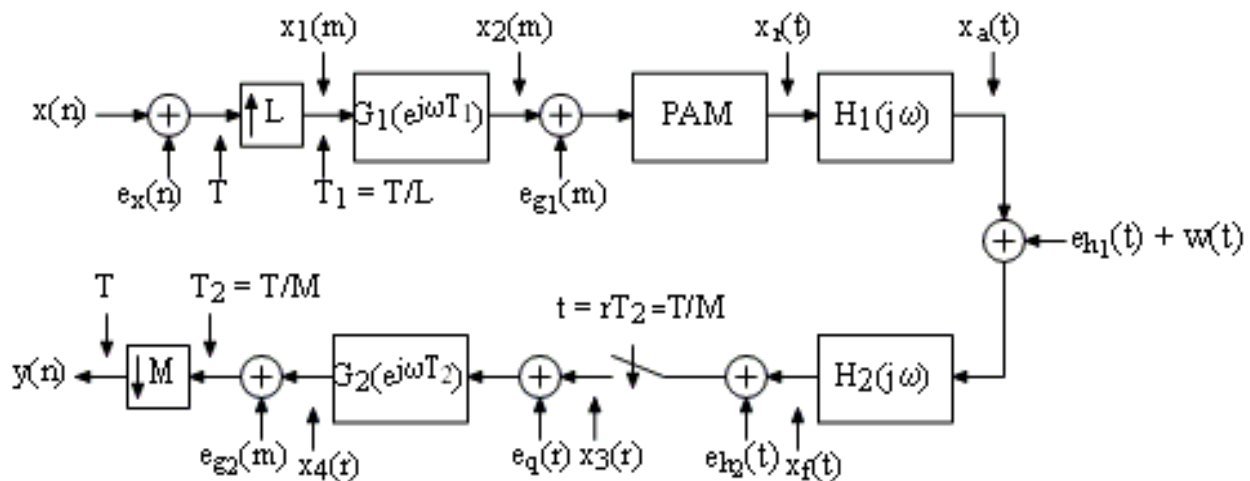

Figure 1.1: Mixed-signal system.
In this laboratory, the functional behaviour of the system shown in Figure 1.1 is studied. The system is one segment of a mixed-signal part typically found in the physical layer of a communication system implementation. The upper part, i.e., oversampled digital-to-analogue conversion is typically situated before the radio frequency (RF) electronics on the transmitter side of a digital radio system. The lower part, on the other hand, oversampled analogue-to-digital conversion is typically used to digitize the received signals after the radio frequency electronics in a digital radio receiver. To the right in the figure, the radio frequency electronics, antennas, and channel, etc., are situated. To the left, the digital channel, source coding/decoding, synchronization, equalization, and symbol detection, etc., are typically performed. In this lab (and in the figure) the analogue parts are connected back-to-back simulating a very simple channel (as added noise).
In this laboratory we will use a simulation tool from the vendor Mathworks, called MATLAB. (There are free clones, such as GNU Octave, which you could also use. However, some of the routines created for this laboratory work is not fully compatible with the octave environment.) During the lab, we will run a MATLAB executable model of the system shown in Figure 1.1 and the MATLAB files needed for this are found in the project setup directory in your \\$WORKAREA:
Now start with the exercises that essentially takes you through the signal chain shown in Figure 1.1.
The top and middle plots show artificial responses which do not correspond to any response of the system in figure 1.1 but they are nevertheless useful when understanding the system response calculated from the input to the output of the DAC (PAM).